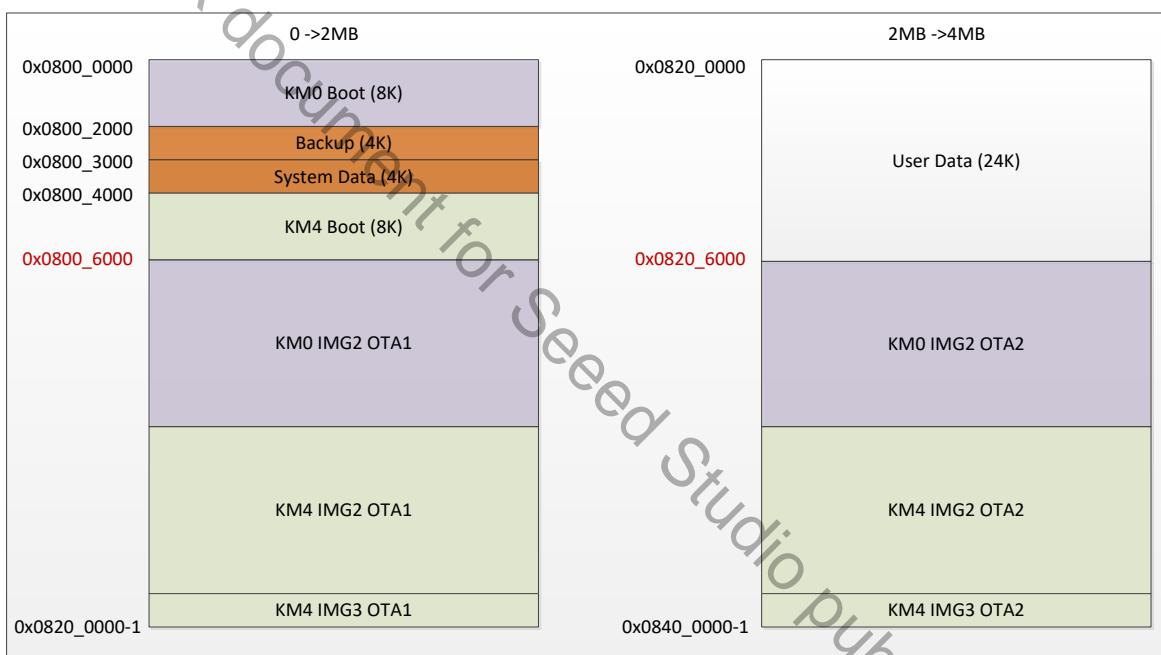

Fig 9-4 4M Flash program layout example
For 4M Flash, an example of Flash layout is illustrated in Fig 9-4. In this example, 2024K Flash size can be used for KM0 & KM2 image, and you can modify the layout according to your actual conditions. Because bootloader will be called by ROM code, the address of bootloader cannot be changed. Other addresses except bootloader can all be changed by user, but before you change these addresses, make sure that you are familiar with Ameba-D system and SDK.
- (1) Modify **OTA_Region** in rtl8721d_bootcfg.h, change OTA2 region start address according to your actual Flash layout. When using 4M Flash program layout example as shown in Fig 9-4, OTA region should be modified as below:
- (2) Modify OTA address definition in rtl8721d_ota.h, redefine **LS_IMG2_OTA2_ADDR** macro according to your actual Flash layout. When using 4M Flash program layout example as shown in Fig 9-4, OTA address should be modified as below:
- (1) For BT FTL start address, re-define **ftl_phys_page_start_addr** variable in rtl8721dhp_intfcfg.c, note that SPI FLASH address base 0x0800_0000 is subtracted when calculating **ftl_phys_page_start_addr** variable, and **ftl_phys_page** will consume 3*4=12KB Flash starting from **ftl_phys_page_start_addr**. When using 4M Flash program layout example as shown in Fig 9-4, BT FTL start address should be modified as below:
- (2) For Wi-Fi fast connect profile address, redefine **FAST_RECONNECT_DATA** macro in platform_opts.h, and SPI FLASH address base 0x0800_0000 is subtracted when calculating **FAST_RECONNECT_DATA** macro. Note that Wi-Fi fast connect profile address should not recover the 12KB Flash starting from **ftl_phys_page_start_addr**, as this region is reserved for BT FTL. When using 4M Flash program layout example as shown in Fig 9-4, Wi-Fi fast connect profile address should be set to 0x202000+0x3000=0x205000.